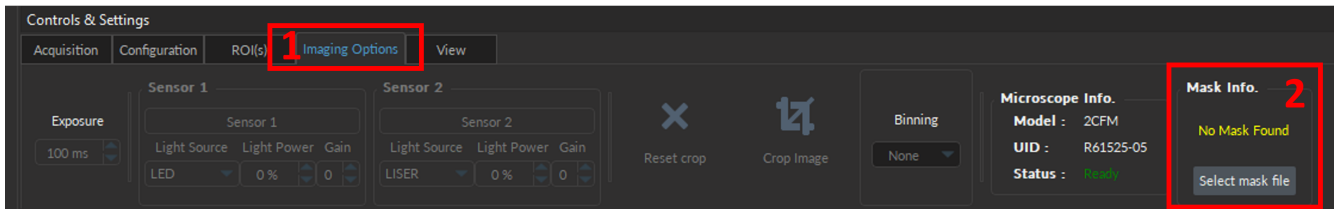

Figure 8.42: Add Mask in the Imaging Options tab
2. Open the software and connect the *Microscope Driver*. Then navigate to the **Imaging Options** tab and click **Select Mask File** (Fig. 8.42). This opens a file selection window. Travel to the location of the mask file, select it and click **OK**.